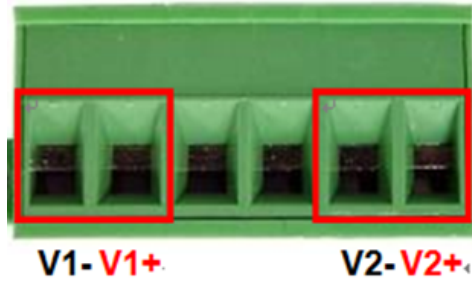

Figure 2.3 - Power Terminal Block
1. Insert the positive and negative wires into the PWR1 (V1+, V1-) and PWR2 (V2+, V2-) contacts on the terminal block connector as shown below in *Figure 2.3*.